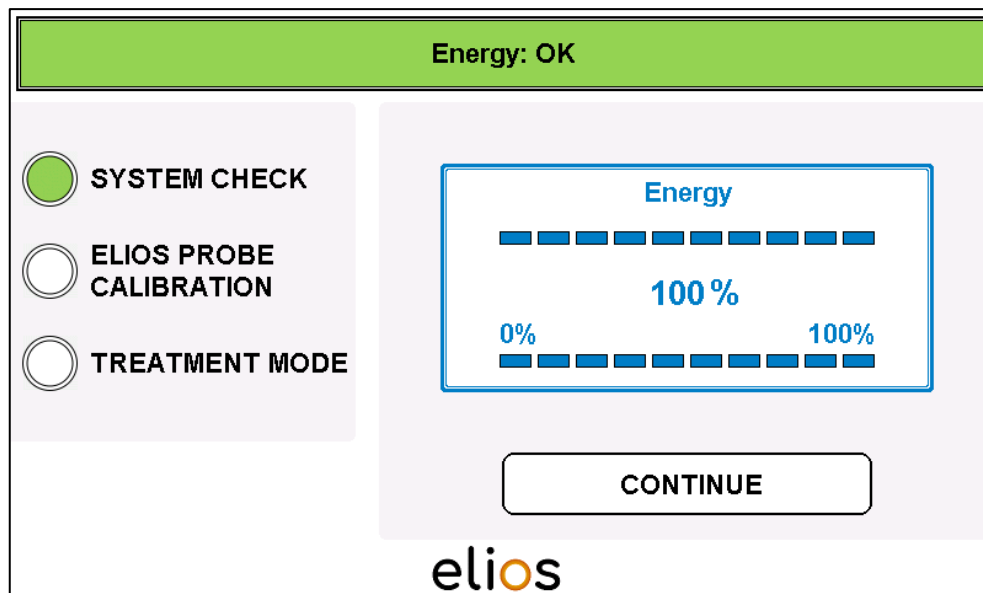

Fig. 4-3: Internal energy control
- As soon as the foot switch is released, the button “**CONTINUE**” can be pressed to move on to the ELIOS PROBE CALIBRATION (Fig. 4-3).